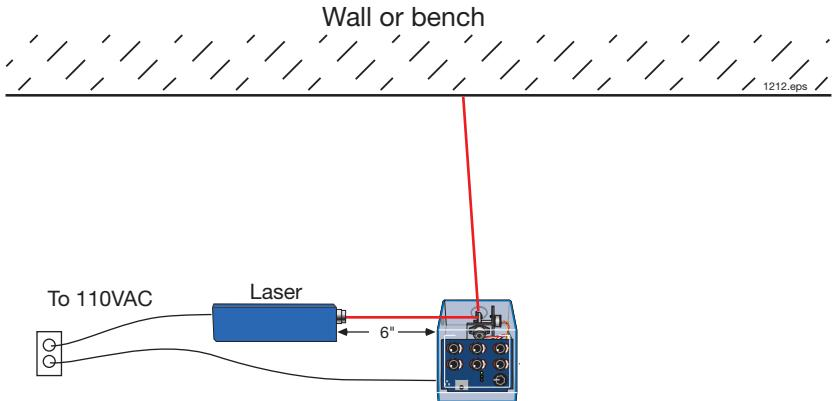

Figure 3. Laser aligned with the Pattern Generator and ready for use.
13. Align the laser beam with the Pattern Generator so the beam strikes the center of the upper mirror at right angles, as shown in **Figure 3**. (Books or paper may have to be placed under the laser or Pattern Generator to accurately align the laser beam with the Pattern Generator's upper mirror.)